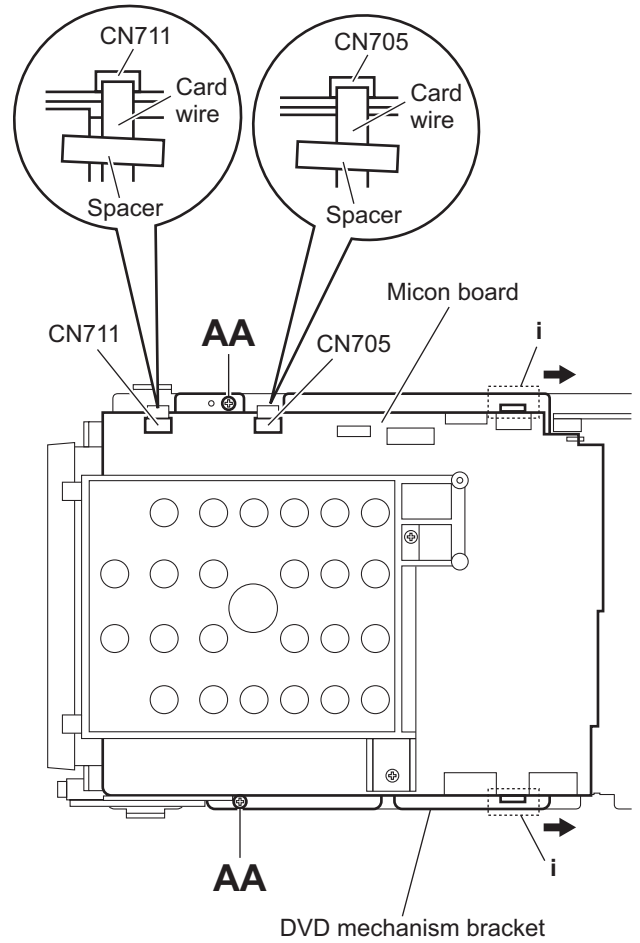

Fig.21
(See Figs.21 and 22)**
- (1) From the top side of the main body, disconnect the card wires from the connectors (CN705 and CN711) on the micon board. (See Fig.21.)
- (2) From the left side of the main body, remove the spacers fixing the card wires. (See Fig.21.)
- (3) From the top side of the main body, remove the two screws **AA** attaching the DVD mechanism bracket. (See Fig.21.)
- (4) Move the DVD mechanism bracket in the direction of the arrow to release the claws **i** and remove the DVD mechanism bracket. (See Fig.21.)